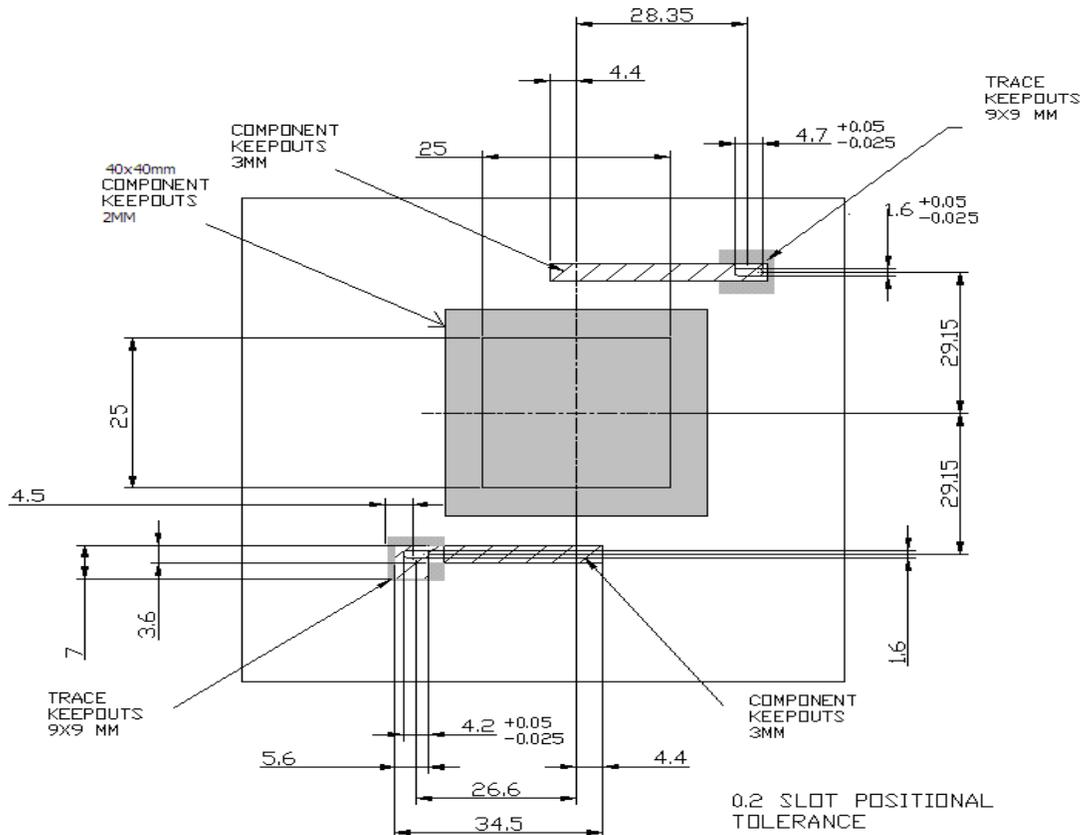
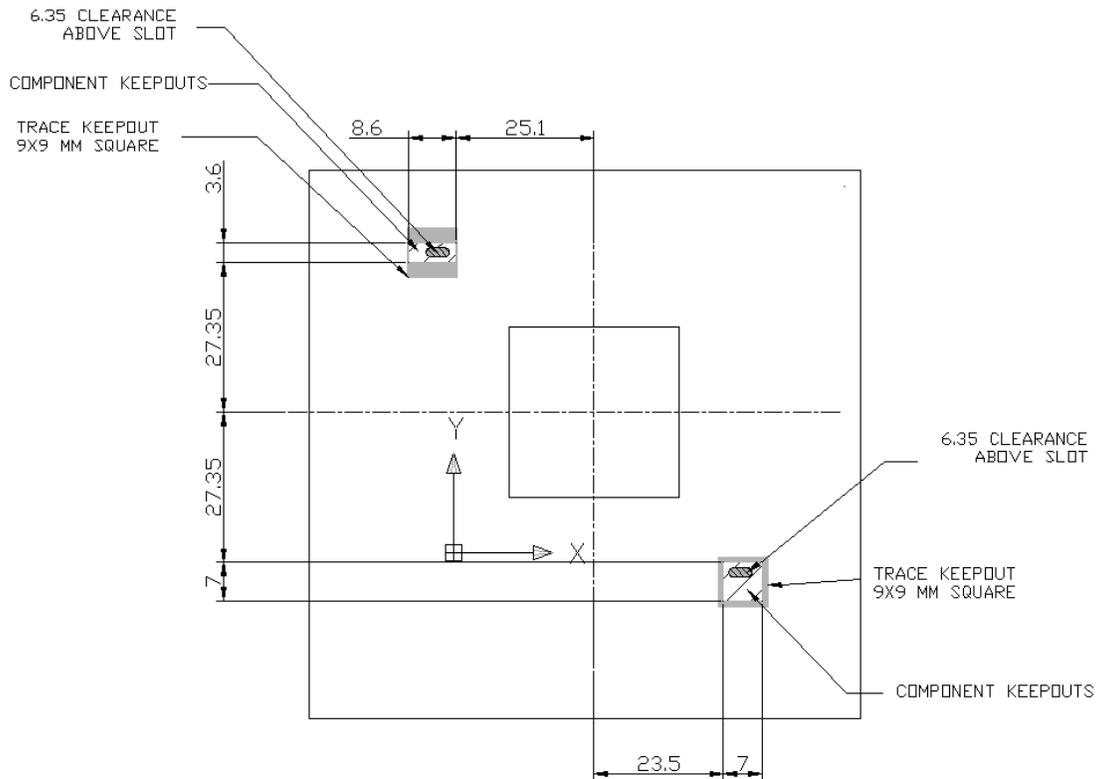
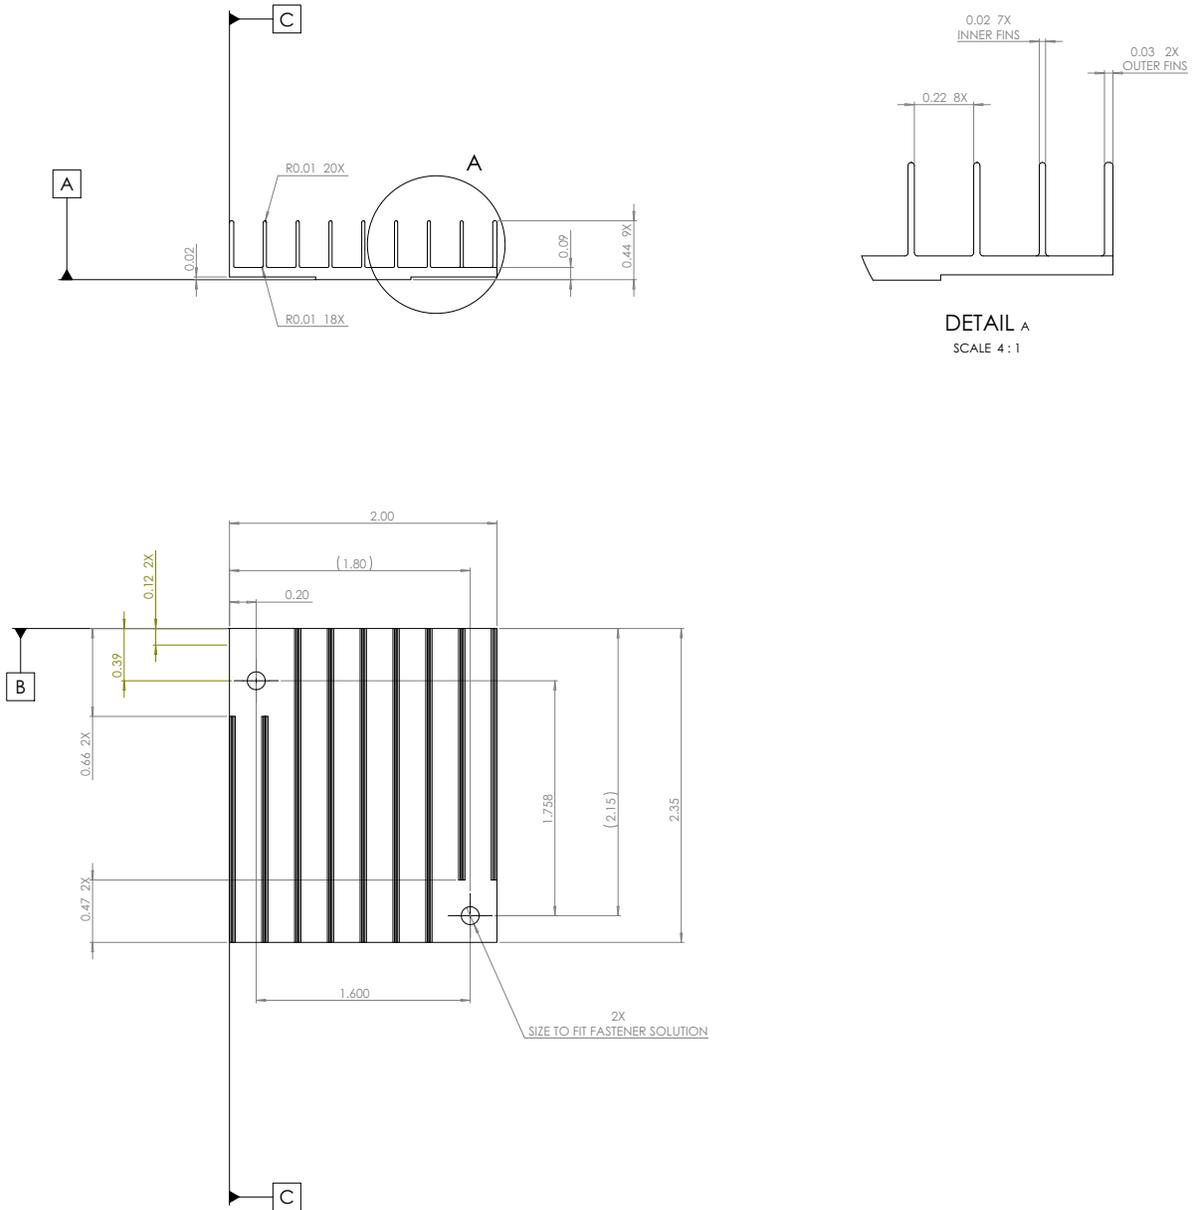

Figure 14-1. X550 Heat Sink Keep Out Restrictions (Top Side Keep Out)
Figure 14-2. X550 Heat Sink Keep Out Restrictions (Bottom Side Keep Out)
Figure 14-3. X550 Extruded Heat Sink
**Table 14-3. X550 Expected Tcase (°C) for High Heat Sink in Figure 14-3 at 11.5 W (JEDEC Card)**
To be effective, a heat sink should have a pocket of air around it that is free of obstructions. Though each design can have unique mechanical restrictions, the recommended clearances for a heat sink used with the X550 are shown in Figure 14-1 assuming one of the 40 x 40 mm reference heat sinks is selected. Retention clip selection is open, and example keep-outs and board through holes are shown in Figure 14-1 and Figure 14-2 for a torsion retention clip.
If you have no control over the end-user's thermal environment, or if you wish to bypass the thermal modeling and evaluation process, use the default enhanced thermal solutions (see Figure 14-2 and Figure 14-3). These solutions replicate the performance listed in Figure 14-3 at the TDP. If, after implementing the recommended enhanced thermal solution, the case temperature continues to exceed allowable values, additional cooling is needed. This additional cooling can be achieved by improving airflow to the component and/or adding additional thermal enhancements.
If required, the following extruded heat sinks are the suggested X550 thermal solutions (Figure 14-3). Also, see Figure 14-1 and Figure 14-2 for heat sink information.